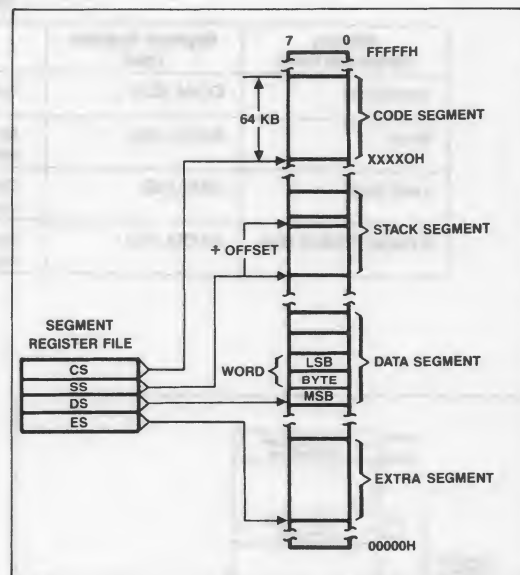

Figure 1. Memory Organization
The processor provides a 20-bit address to memory which locates the byte being referenced. The memory is organized as a linear array of up to 1 million bytes, addressed as 00000(H) to FFFFF(H). The memory is logically divided into code, data, extra, and stack segments of up to 64K bytes each, with each segment falling on 16-byte boundaries. (See FIGURE 1).